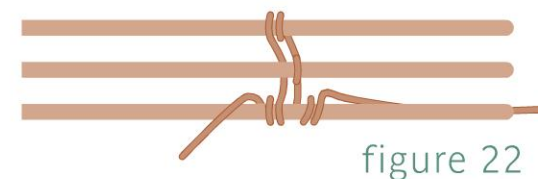

figure 22
- 5 Bring the weaving wire over Frame Wire 2, underneath and over Frame Wire 1; coil twice (Figure 22).